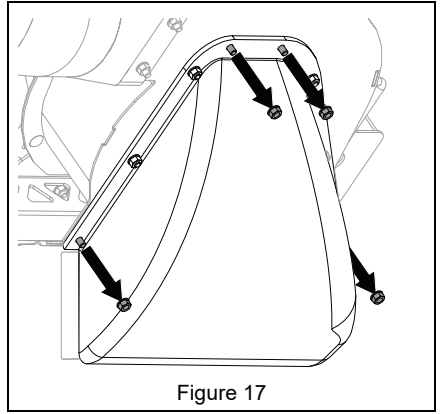

Figure 17
5. Remove and retain four of eight top locking flange nuts securing bolts to blower plenum. DO NOT remove bolts. See Figure 17.